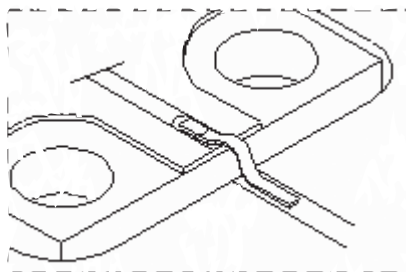

Figure 3
- 1) The first method uses a gold plated copper ribbon for the interface (Figure 3). The ribbon is gap welded to the gold system trace, a small stress relief is formed, and the other end of the ribbon is soldered to the mixer trace.